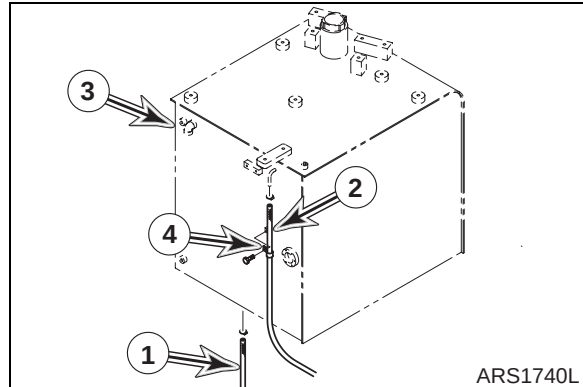

Figure 7
14. Tag and disconnect fuel supply line (1, Figure 7) and fuel return line (2) from tank (3) and carefully drain remaining fuel from lines.
15. Remove clamp (4, Figure 7) holding fuel return line (2) to tank (3).